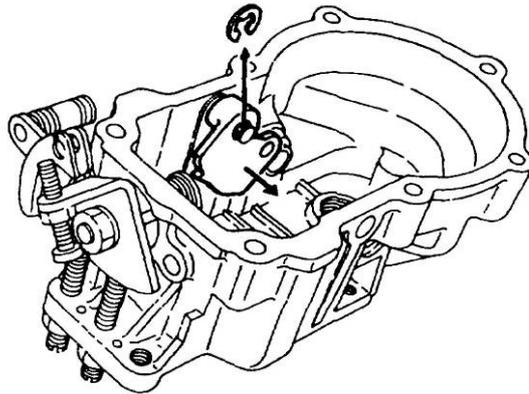

Figure 100 Removal of the Torque Cam
- w. Remove the guide lever and cancel spring and the tension lever assembly from the governor cover. Remove the snap-ring securing the torque cam to the pivot pin and remove the torque cam (Figure 100).